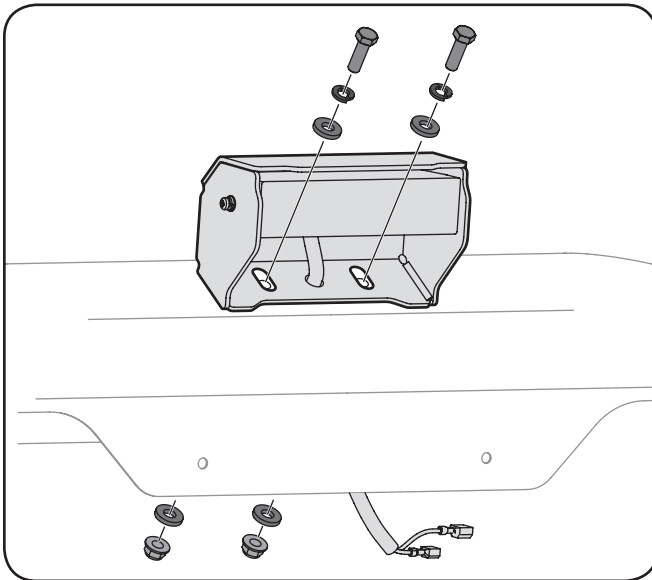

Figure 1-8
10. Install the headlight bracket (#1) to the floor board on tractors with a stamped floorboard using two hex screws (#4), two lock washers (#8), four flat washers (#13) and two flange lock nuts (#6) as shown in Figure 1-8.